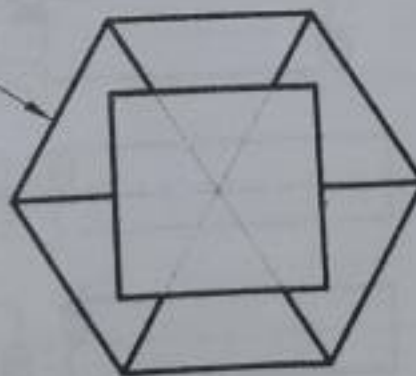

Figure 4
4. Figure 4 shows plan and elevation of a square prism interpenetrating centrally a hexagonal pyramid. Draw the